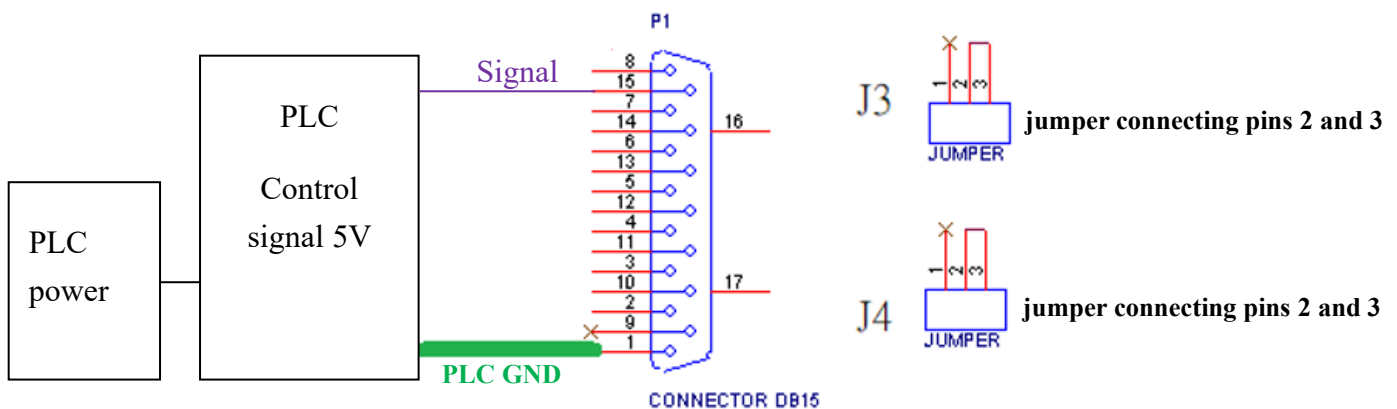

Figure 9
| 1 | P | External GND | The return path for the isolated input power supply. Please refer to Figure 9. |
| 2 | P | External power supply for control signal | The positive voltage supply path for the isolated input power. Please refer to Figure 9. |
- 2.4 The power supply can be isolated, non-isolated 24V, or non-isolated 5V. Please refer to Figure 9.